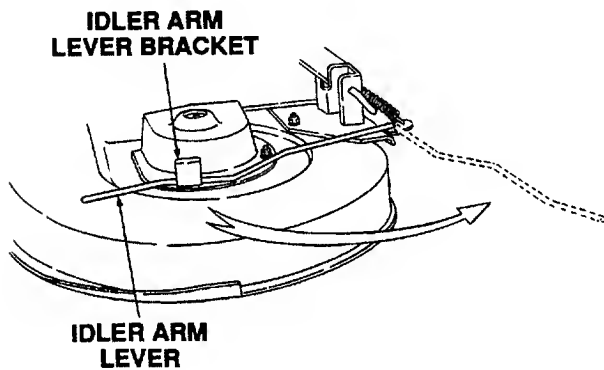

Figure 54
12. Disengage the deck idler arm lever from its stop bracket and release the spring tension until the lever is at the outside of the deck (Refer to Figure 54).